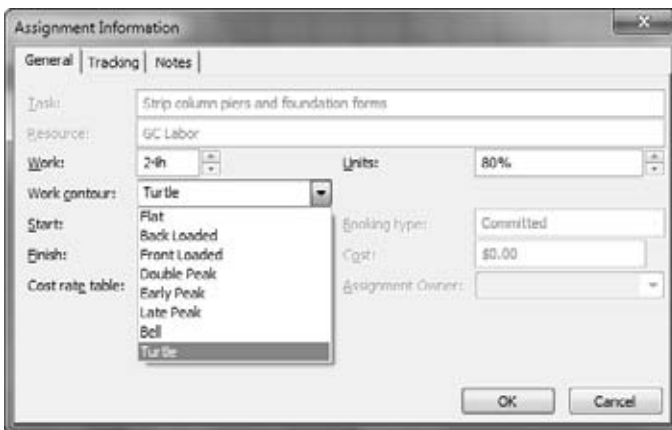

Figure 10-24:
3. In the General tab, in the Work Contour list, choose the contour, as illustrated in Figure 10-24, and then click OK.